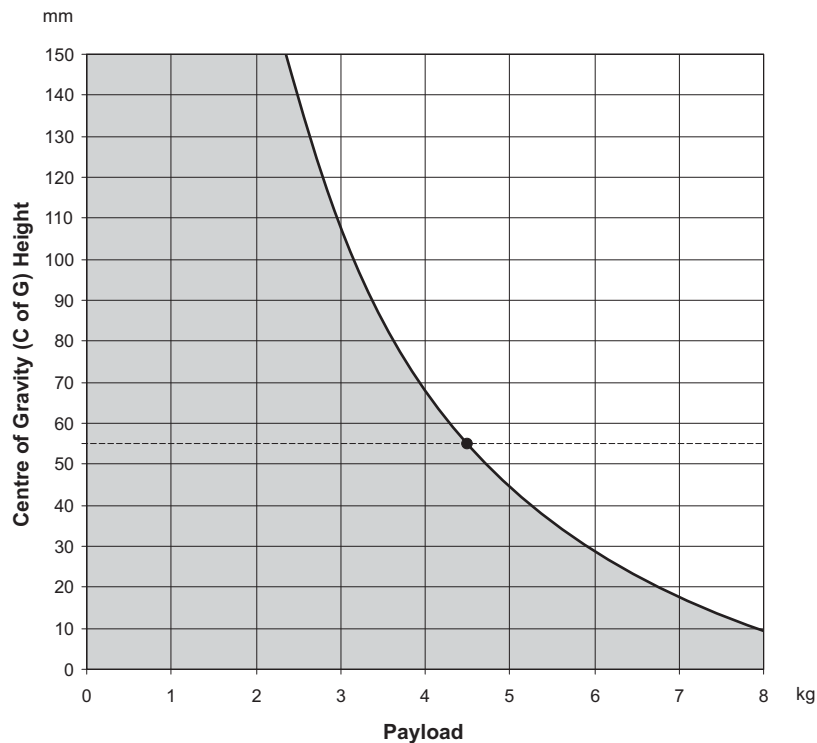
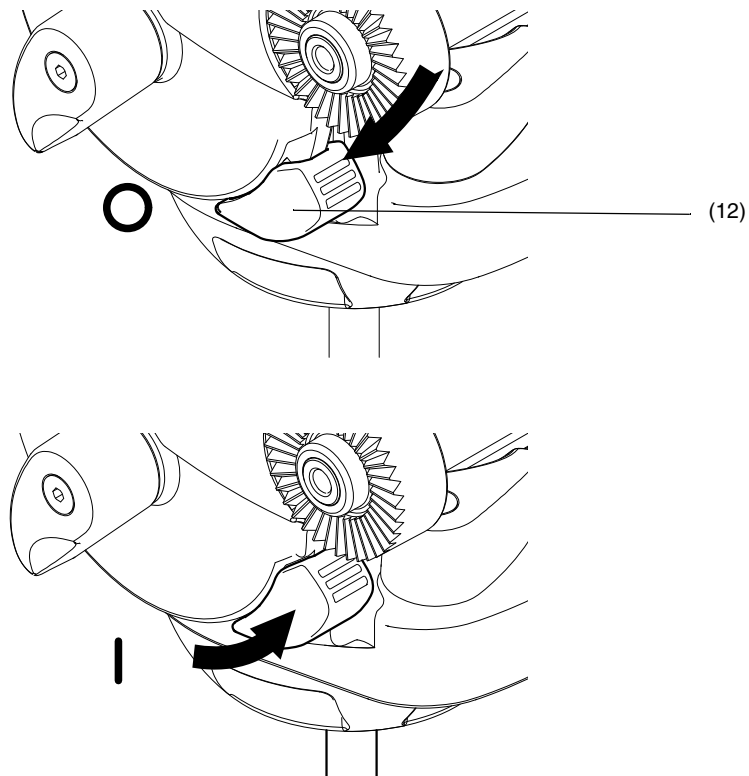

Fig. 4 Balance graph
Fig. 5 Balance selector
The PRO-5^{plus} pan and tilt head's two-step balance system is set for payloads up to 4.5 kg (9.9 lb) at a centre of gravity (C of G) height of 55 mm (2.2 in.) or may be deselected for free tilt rotation. The graph (Fig. 4) shows the relationship between C of G height and payload for optimum performance.
The PRO-5plus head has an on/off selectable balance system, set for payloads of 4.5kg (9.9lb) at a centre of gravity (C of G) height of 55 mm (2.2 in.). The graph (Fig. 4) shows the relationship between C of G height and payload for optimum performance.
The balance selector (12) allows two balance levels to be utilized. Pushing the selector (12) downward (Fig. 5) offers free rotation of the tilt axis with no counter-balance engagement. Lifting the selector (12) upward (Fig. 5) offers full balance capacity (Fig. 4).
Using the pan bar (5), tilt the head backwards and forwards. If the head tends to spring back, de-select the balance system (12) and apply sufficient tilt drag (1) to control camera tilt as required. If the head tends to fall away, the payload exceeds the capacity of the head (Fig. 4). If possible, reduce the C of G height of any ancillary equipment or remove completely.